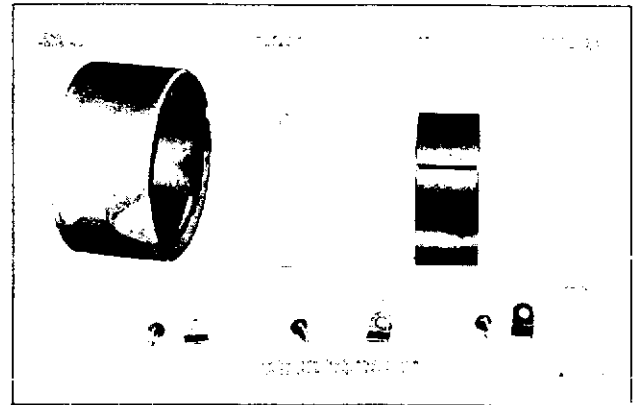

Figure 17—Assembling Condenser Lens
54. Occasionally it becomes necessary to clean the interior surfaces of the condenser lens in addition to the routine maintenance cleaning of the exterior surfaces. When this is necessary, remove the lens from its mounting and take it apart as shown in figure 17. Clean the condenser surfaces, especially the interior, with lens tissue or with absorbent cotton moistened in carbon tetrachloride. Assemble the lens in the order indicated in figure 17.